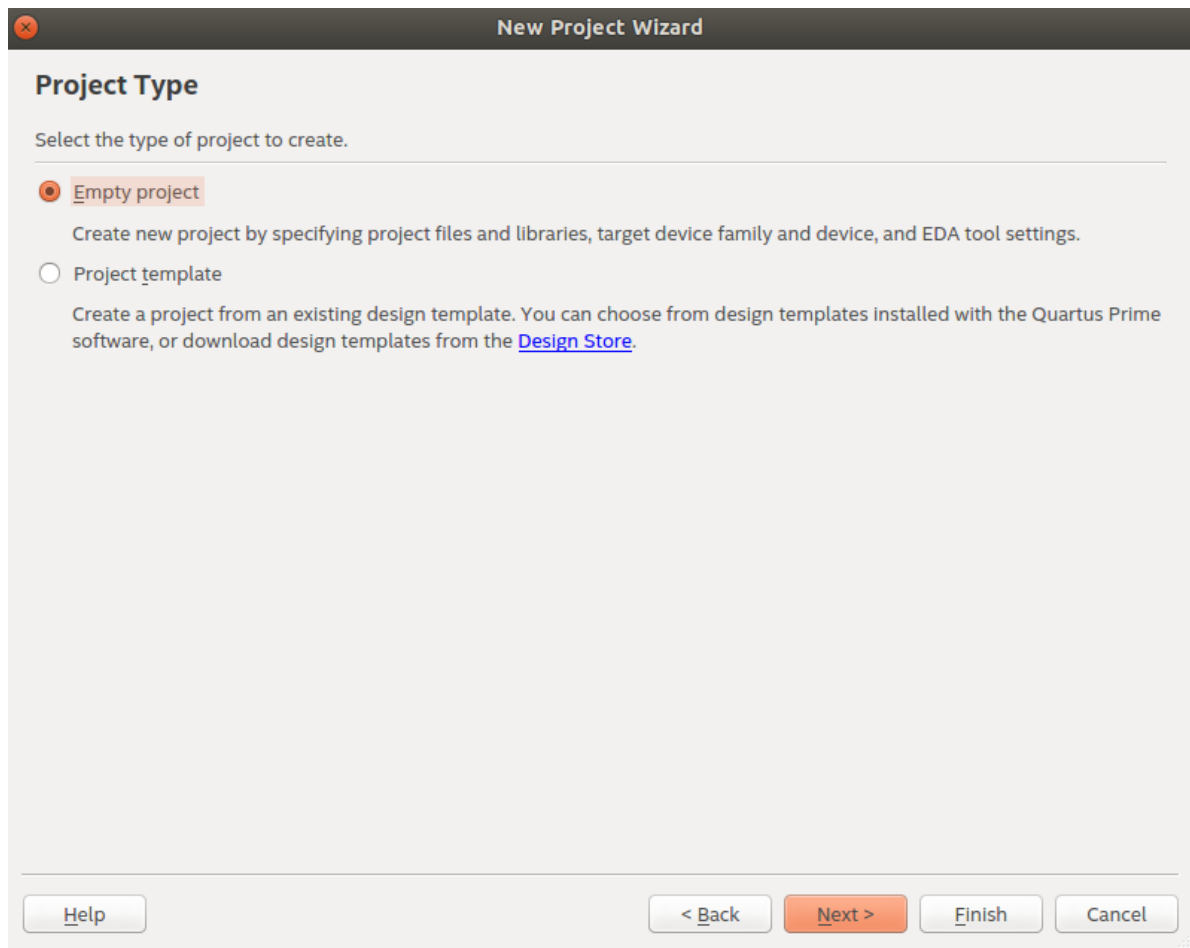

Figure 19: Project type.
5. Select **Empty project** as shown in Figure 19 and click **Next**.